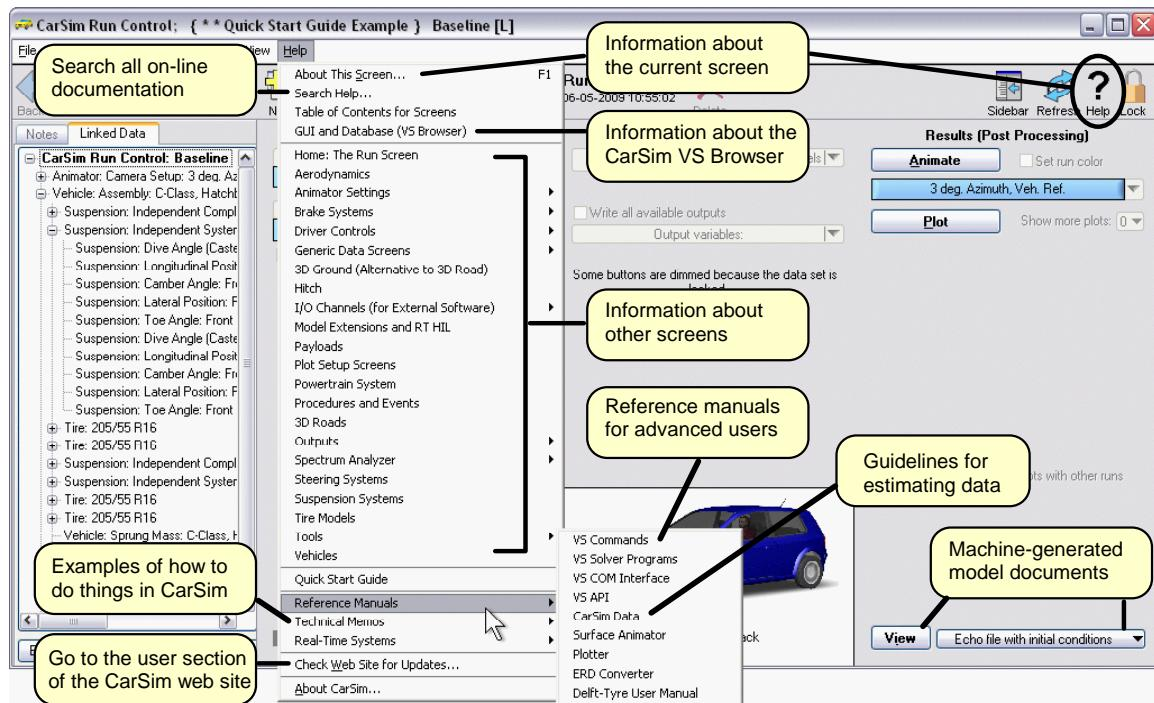

Figure 54. On-line information available from the Help menu and View button.
Much more information is available on-line in the **Help** menu. It provides reference information for all menus, controls, and screens (Figure 54). There are also technical memos that show by example some of the more advanced features in CarSim.
- a. The top of the file has system parameters that exist in any CarSim model such as the time step, start time, stop time, etc. The format of the file is described in the reference manual for VS commands and the solver programs, accessed from the **Help** menu (Figure 54). The parameters are listed in alphabetical order.